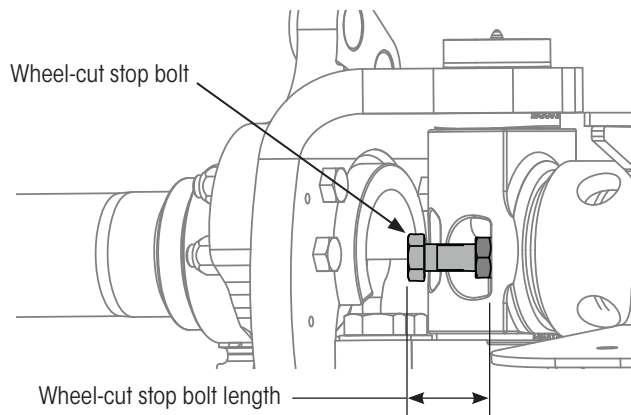

Figure 37: Adjustable wheel-cut stop bolts
The maximum wheel-cut is set by adjusting the two wheel-cut stop bolts (Figure 37) on each end of the axle, rear side. These stop bolts are aligned to the knuckle for the purpose of limiting steer axle wheel-cut movement and prevent the wheels from contacting the trailer.
1. **Loosen** stop bolt jam nut (Figure 37).
| 9 | Wheel-cut stop bolt and jam nut | $\frac{3}{4}$ -10 nut | $1\frac{1}{8}$ inch | 140±10 | 190±10 | Figure 37 on page 20 |